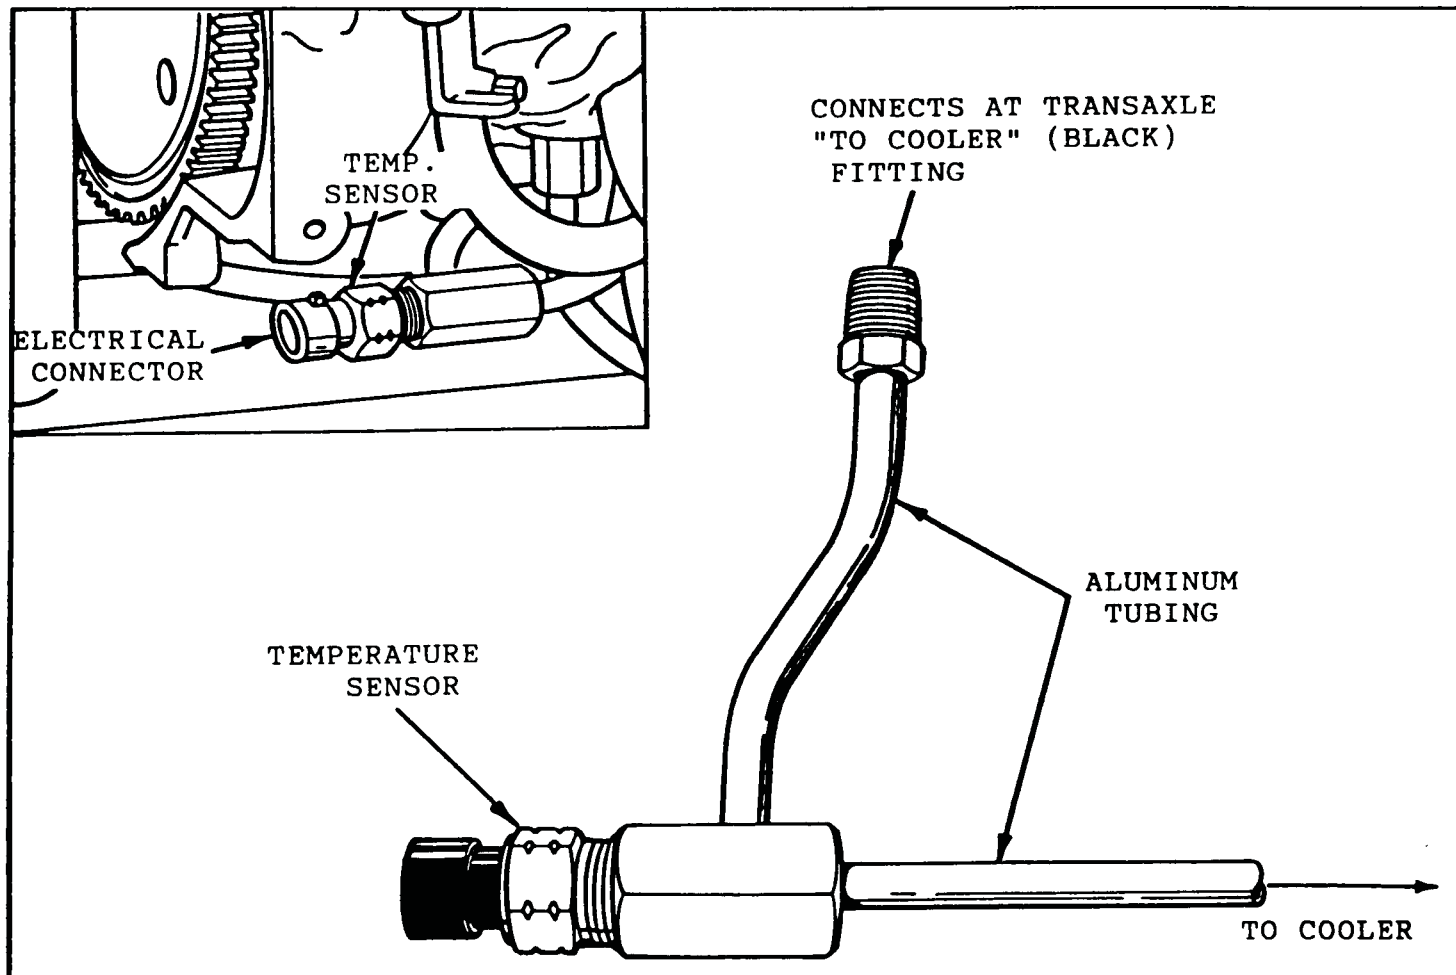

Figure 74
- (3) Cooler Line - Temperature Sensor added (See Figure 74).